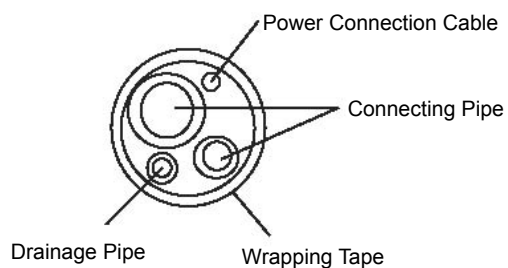

Figure 11-6
- ① When only drawing out the power line, pull the power line through the cross hole;
- ② When drawing out the connecting pipe and the electrical line, pull them through the cross hole;
- Wrap the fitting pipe and the cable (refer to Figure 11-6) and pull them through the fitting pipe hole.